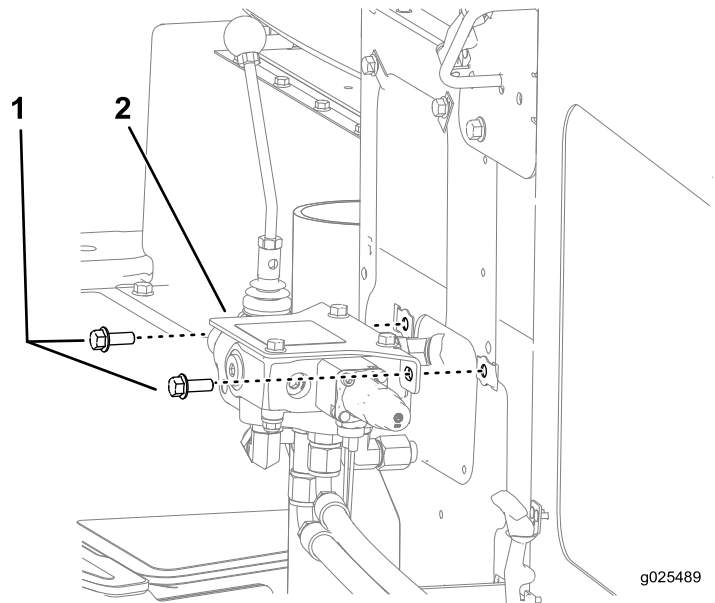

Figure 20
5. Attach the valve assembly and bracket to the machine using the bolts that were holding the panel onto the machine (Figure 20).